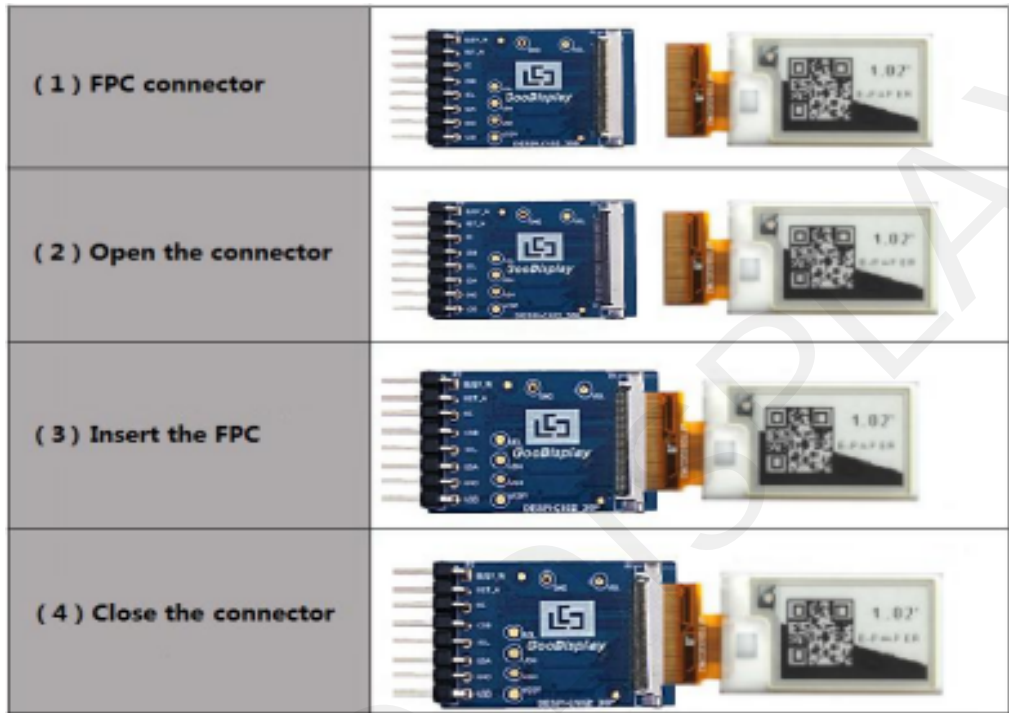

Figure 4.2 : Connection between DESPI-C102 and e-paper
3) Connect the e-paper FPC to DESPI-C102 as shown in Figure 4.2. (Pay attention to the direction of the e-paper.) And set P8 to NC.